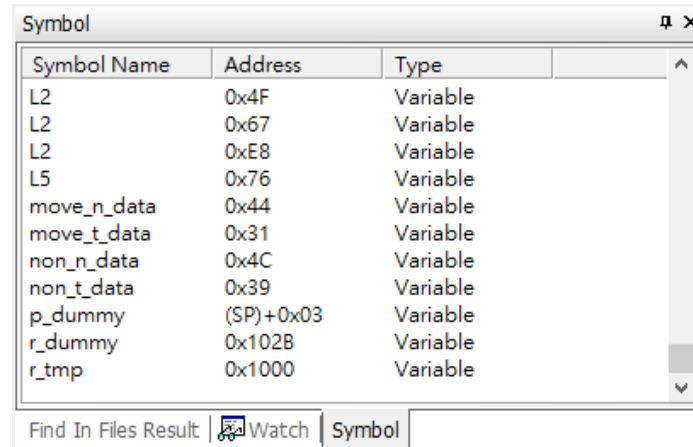

Figure 4.9 Symbol window
**Symbol window** – The symbol window saves the debugging information of the symbol table. The symbols in the symbol table can be directly added to the watch window through the right-click menu, and the observed variable is based on the symbol table. If you want to confirm a variable name or symbol If the name can be observed, you can open the symbol window to check whether the symbol exists in the symbol window, if not, then it cannot be observed, see Figure 4.9.